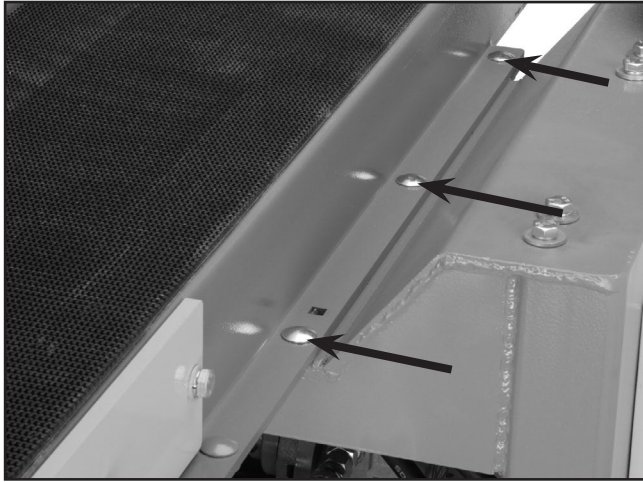

Figure 9. Carriage bolt placement.
4. Line up the holes and insert the carriage bolts as shown in **Figure 9**.